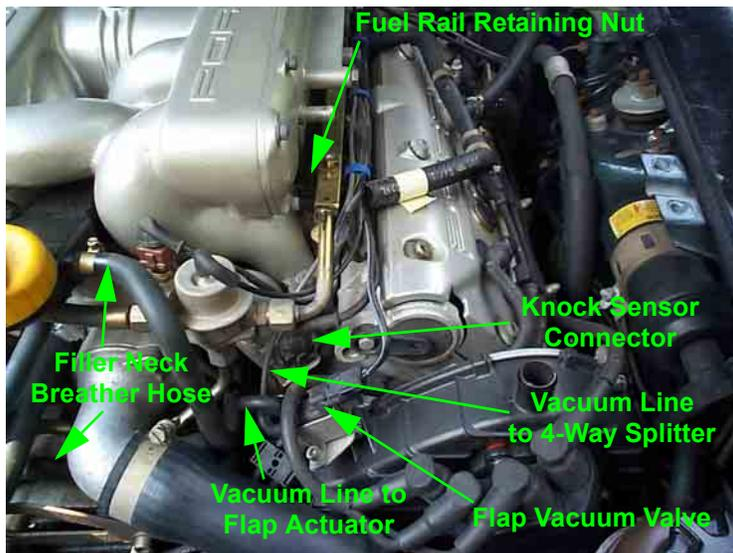

FIGURE 4
- i. Disconnect the fuel rails. See *Figure 4*.
- k. Disconnect driver's side knock sensor harness connector. *See Figure 4.*
- l. Detach the harness connection to the vacuum valve for the dual resonance intake flap, the vacuum feed line to the actuator, and the vacuum line to the fuel pressure damper. *See Figure 4.*
- k. Disconnect the vacuum line that runs under the intake from the resonance flap electronic actuator. Once again, note carefully how this line is routed under the intake as it too will come out with the intake. See *Figure 4*.